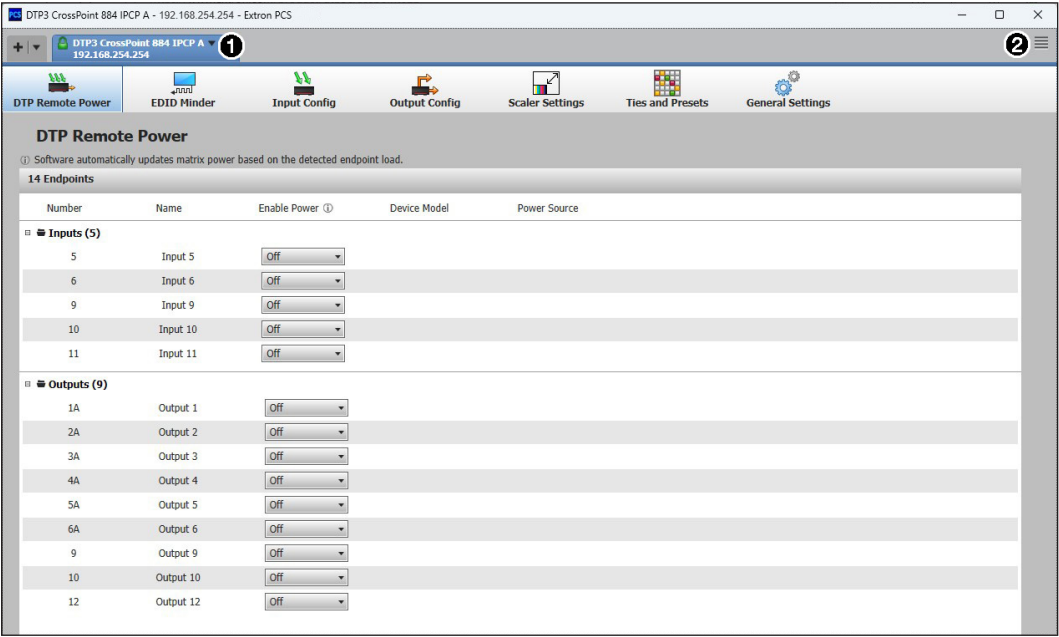

Figure 28. DTP Remote Power Page
4. Click the **Connect** button (⑤). The DTP3 Matrix PCS main page opens (see figure 28 on page 82).
Each PCS screen has a Device drop-down list (see figure 28, ❶) for device configuration options. The Software list (❷) contains software configuration and information options.